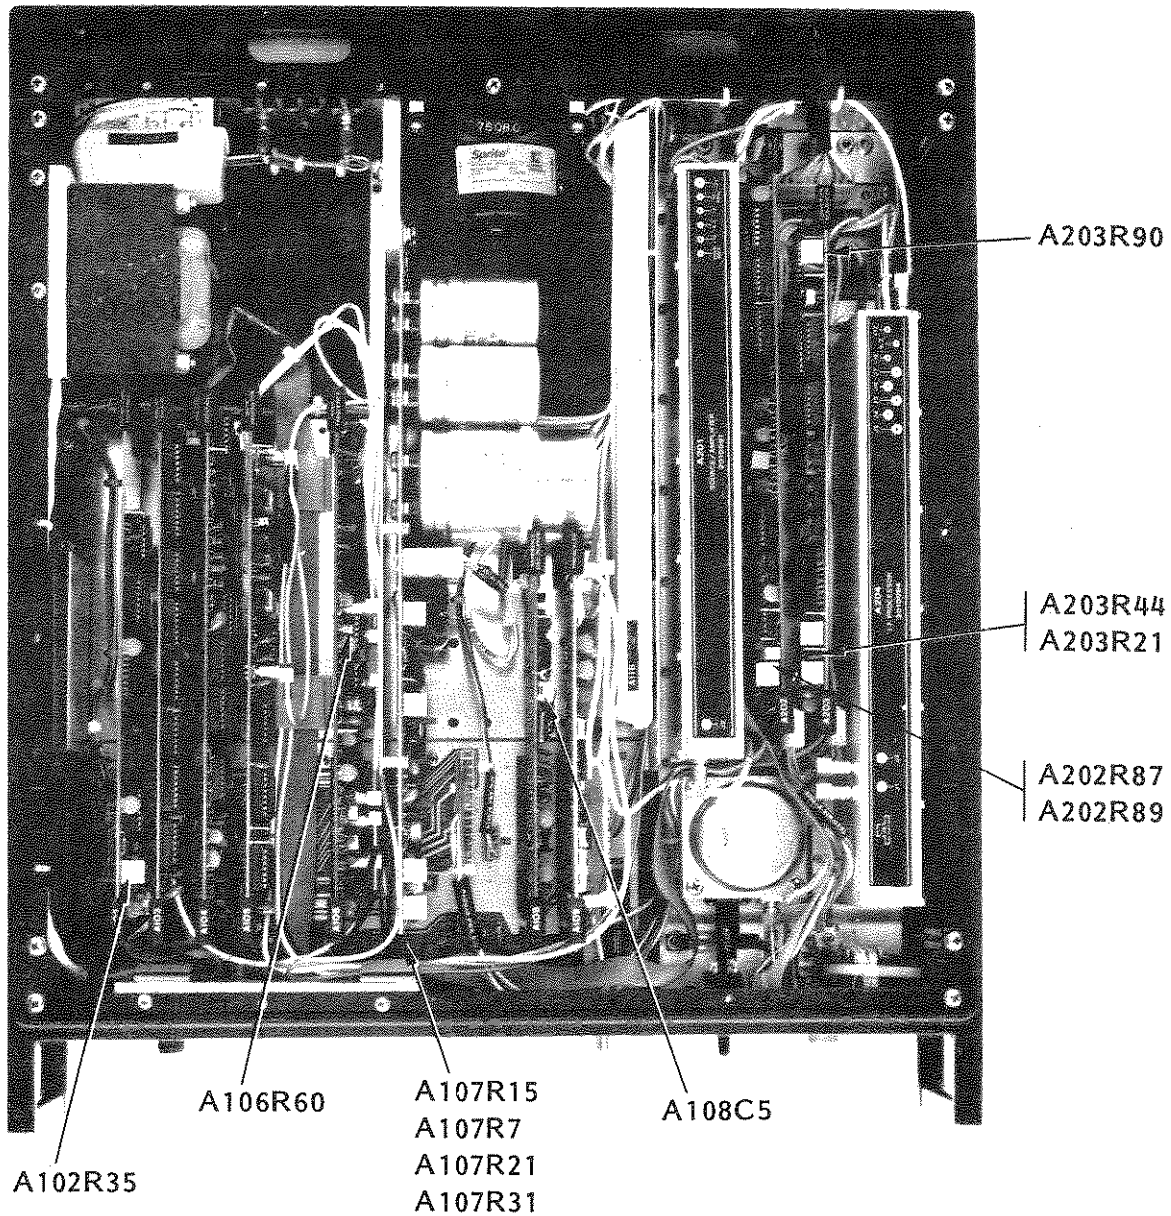

FIGURE 6-1
*Many adjustments are dependent upon previous ones. It is essential that care be taken to perform adjustments in exactly the order presented below. Adjustment locations are shown in Figure 6-1.*